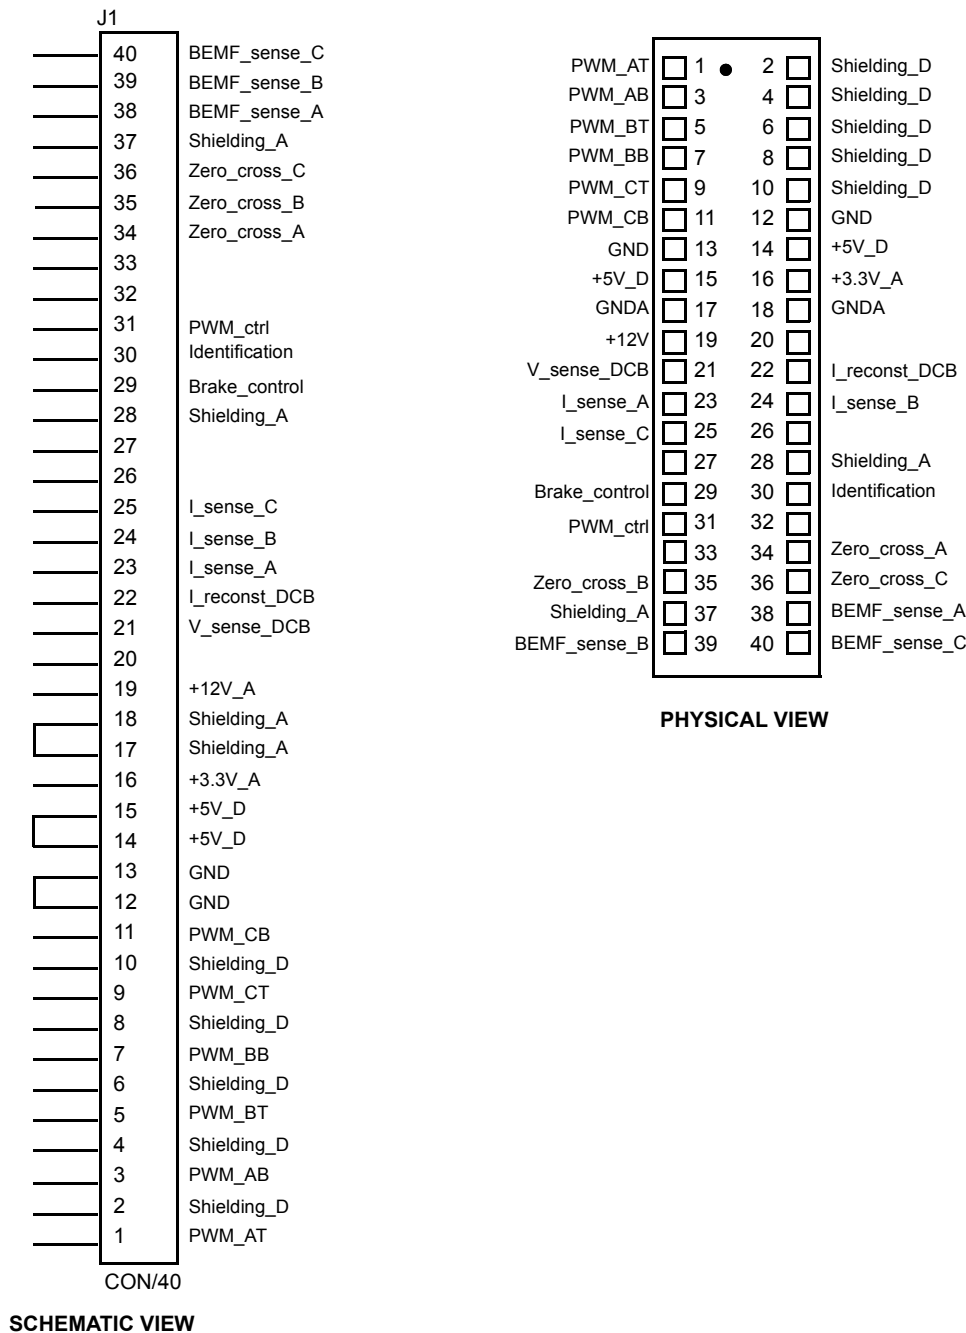

Figure 3-1 40-Pin Input Connector J1
- Pin assignments are shown in Figure 3-1, and a pin-by-pin description is contained in chapter 3.3.
Input connections are made via a 40-pin ribbon cable connector J1. Pin assignments for the input connector are shown in **Figure 3-1**. Power connections to the motor are made on one of the output connectors J2 or J4 or FASTON type (J5 J7 J8). Phase A (J8), phase B (J7), and phase C (J5) are labeled on the board, the phase pin order for all three connector types is identical. Power requirements are met by a single external 12-Vdc power supply. Two connectors, labeled J3 and JP4, are
output connectors are shown in Figure 3-1 with their descriptions in Table 3-1 through Table 3-5.
Signal inputs are grouped together on 40-pin ribbon cable connector J1, located on the right side of the board. Pin assignments are shown in Figure 3-1. Pin descriptions are listed in Table 3-1.